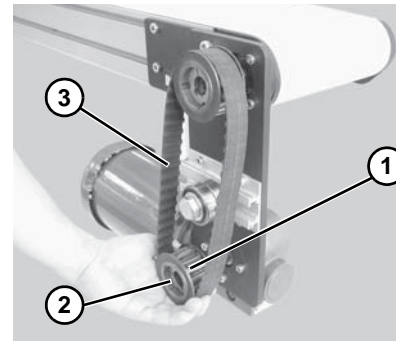

Figure 27
If drive pulley (**Figure 27, item 1**) is replaced, wrap timing belt around drive pulley and complete step 3.
7. Remove pulley (Figure 27, item 1), taper hub assembly (Figure 27, item 2), and timing belt (Figure 27, item 3).
If drive pulley (Figure 27, item 1) is removed. Wrap timing belt around drive pulley and complete step 13.